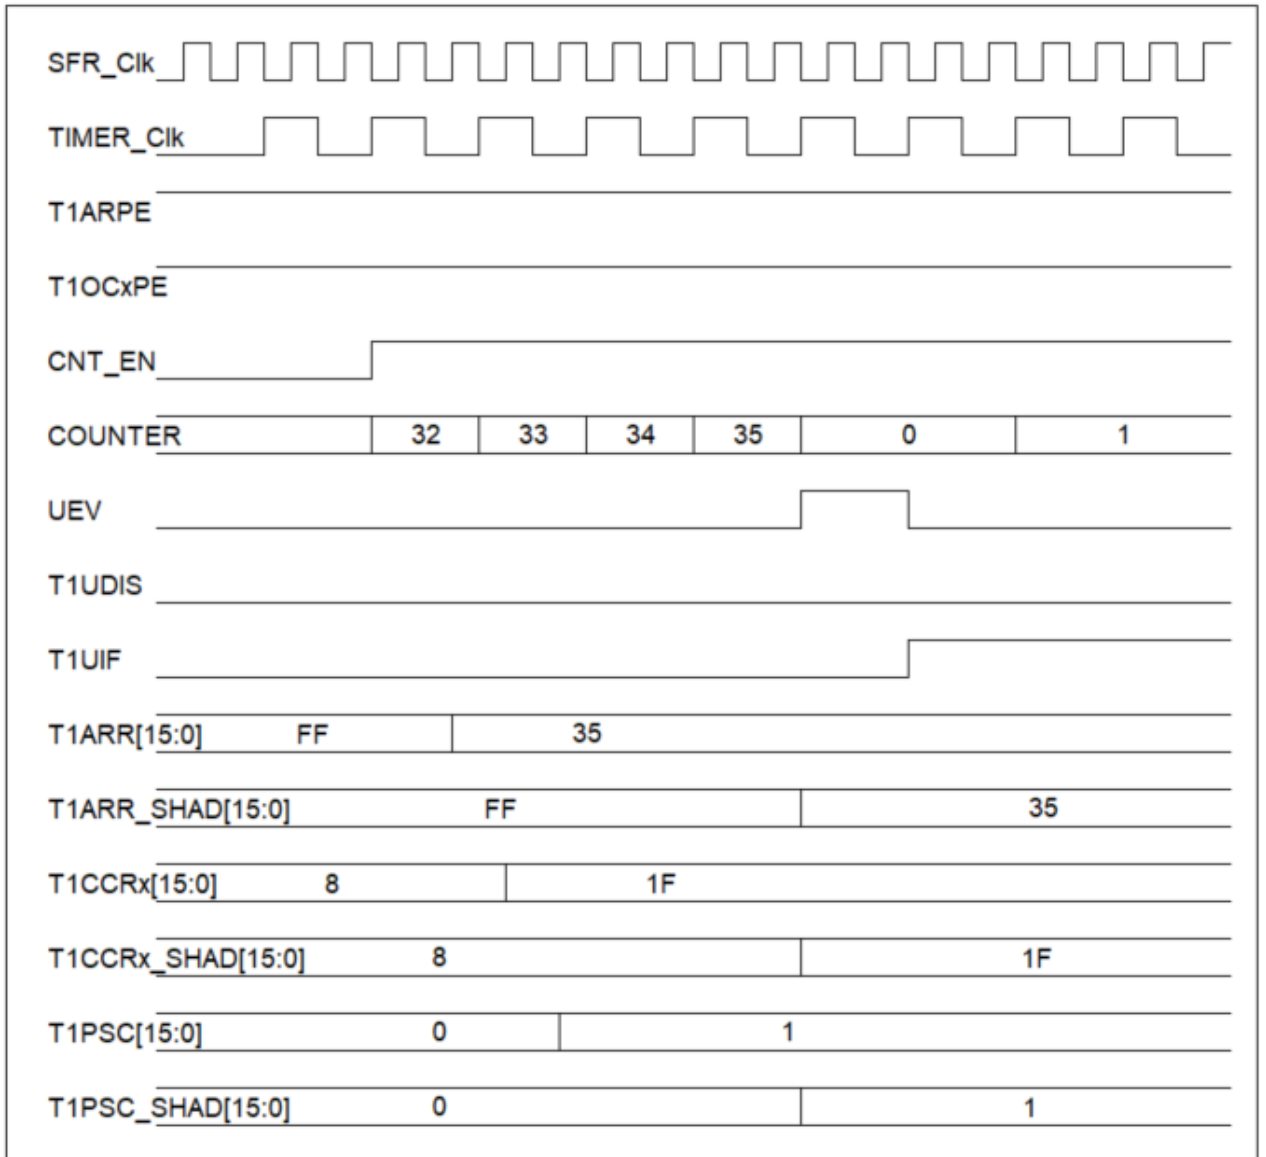

Figure 7-4 Update timing diagram of the preload register under update event
- (1) When the counter is enabled (T1CEN = 1) and its corresponding preload is enabled (T1OCxPE / T1ARPE = 1, as in Table 7-18), its shadow register will be updated to the preload value when an update event is generated, as in Figure 7-4.
- (2) When the counter is disabled (T1CEN = 0), or its corresponding preload is disabled (T1OCxPE / T1ARPE = 0), its shadow register will be updated directly to the preload value.